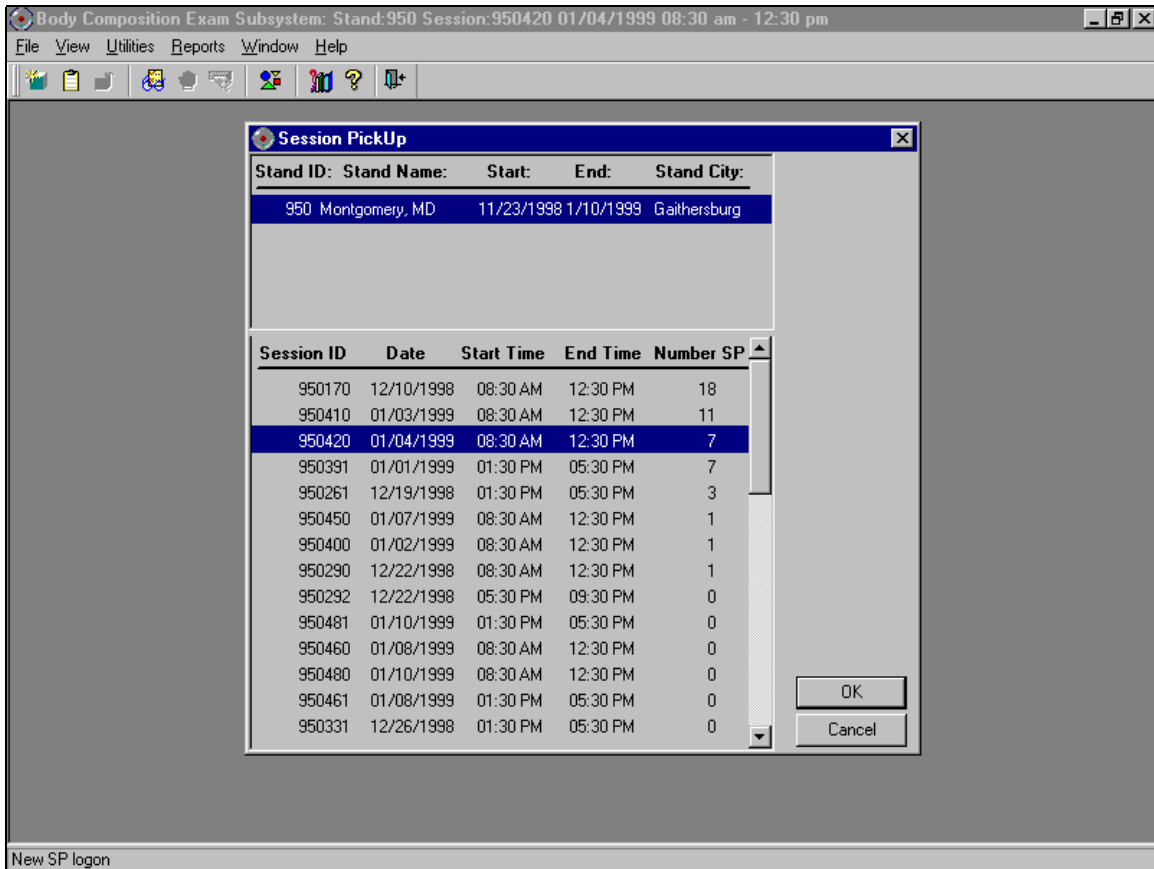

Figure 4-37. Session preview
- A list of current sessions will be displayed. See Figure 4-37.